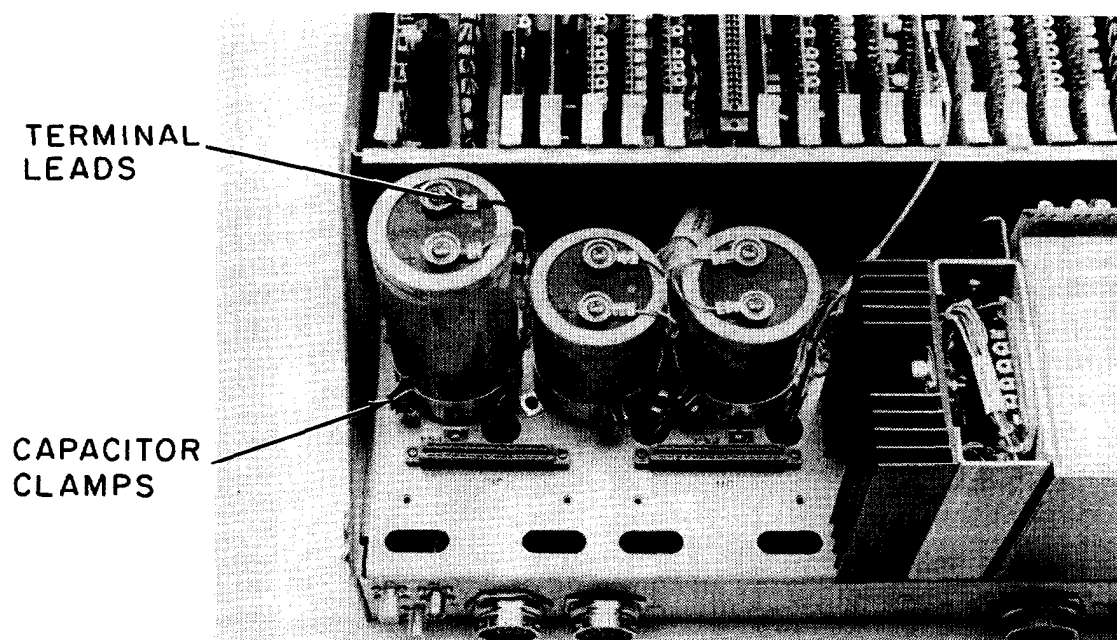

FIGURE 3
2. Tag and remove leads to terminals, Figure 3.
1. Place capacitors into their respective clamps and tighten clamps, Figure 3.